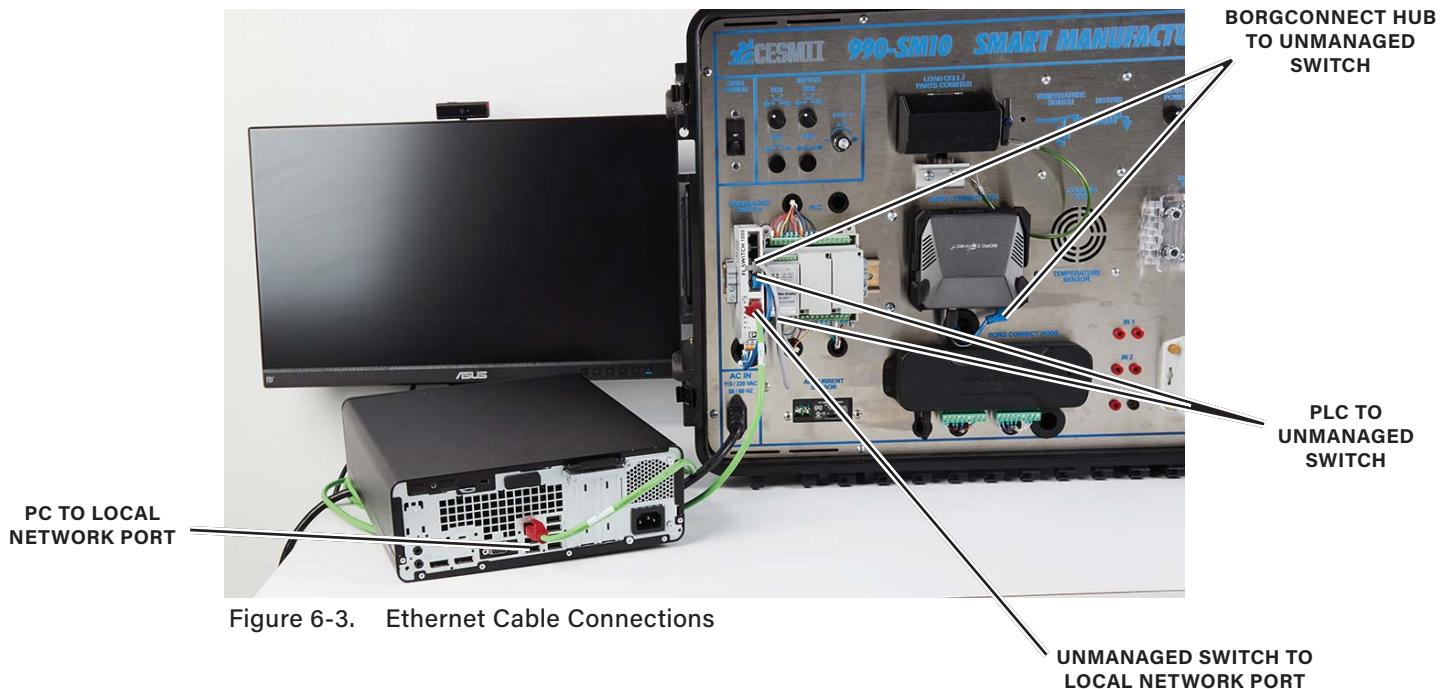

Figure 6-3. Ethernet Cable Connections
- Connect the Ethernet cables between the unmanaged switch, the PLC, and the PC, as shown in figure 6-3.